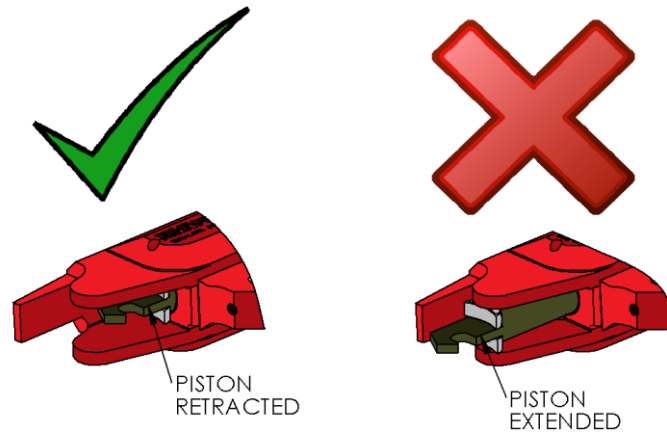

Fig 1: piston positioning
3. Ensure drive cylinder is fully retracted by operating pump (refer to pump operating instructions). **See Fig 1.** If this is not done the ratchet head will be difficult or impossible to fit.